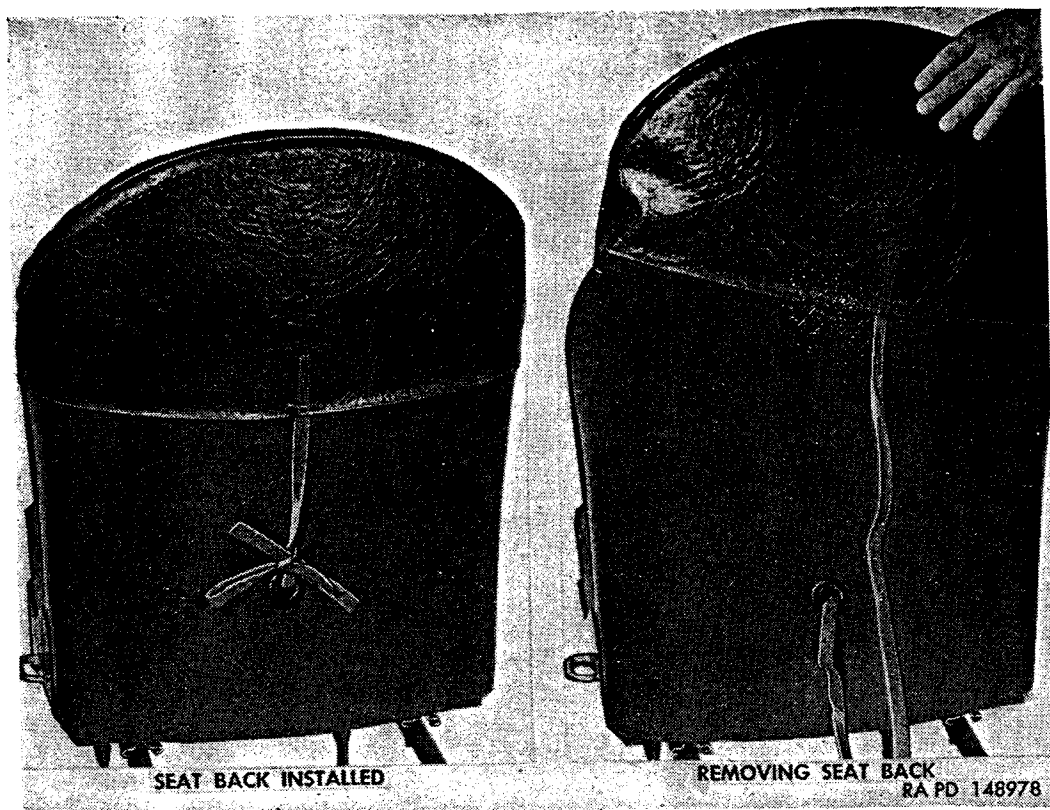

Figure 316. Driver's seat back cushion.
c. Installation. Position seat assembly in cab, with seat support rod engaged in seat support bracket (F) at floor. At rear of seat, swing driver's seat lock bolt (A) upward into engagement with bracket and seat frame. Tighten lock bolt wing nut (B).
(1) *Removal and disassembly.* Untie seat back cushion hold-down strap at back of seat; then lift cushion (fig. 316) from
- (2) *Assembly and installation.* Position seat cushion cover on padding and springs (fig. 317). Engage lacing cord under hooks at bottom of springs. Pull cord taut and tie. Insert pad in seat back cover, fold flap up, and tie straps. Place seat back cushion (fig. 316) on seat frame and tie hold-down strap.